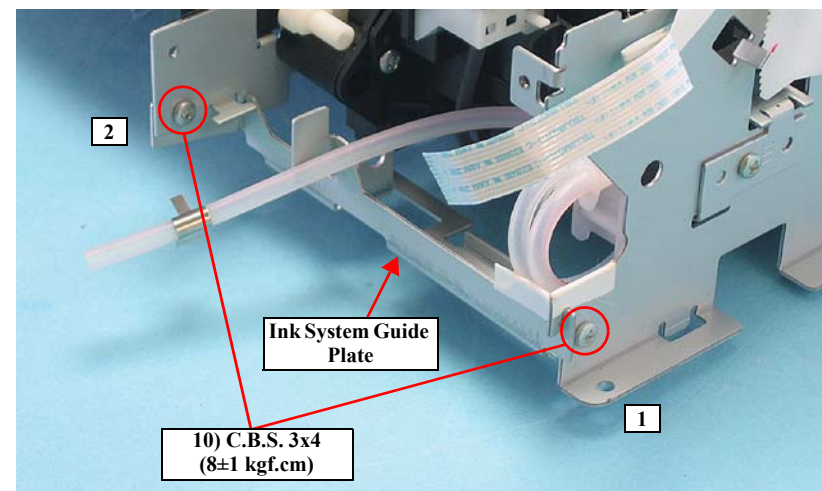

Figure 4-97. Removing the Ink System Guide Plate
- Tighten the screws in the order shown in Figure 4-97.